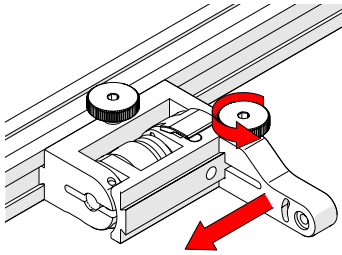

Fig. 85 - Position swing arm
5. Loosen the swing arm knob and slide the swing arm to the opposite end of the probe holder bracket (*Fig. 85*) or preferred position. Tighten swing arm knob.